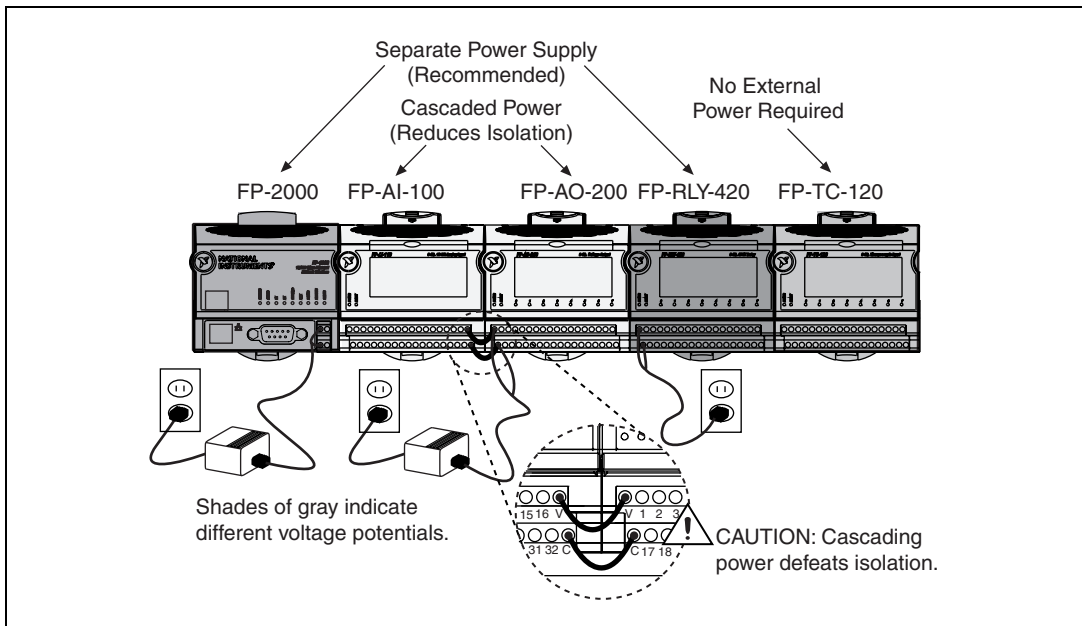

Figure 2-2. FieldPoint Bank with Power Connections
1. Connect the primary power supply to the center V and C pair. You can connect an optional backup power supply to the left V and C pair. The FP-20xx uses the power supply with the higher voltage level. The V terminal for backup power is isolated from the other V terminals. The right V and C pair provides a convenient means of connecting power to the V and C terminals of a terminal base. Figure 2-2 shows this optional connection, called *cascading power*. To verify that your power supply is sufficient for your modules and devices, refer to the *Calculating Power for a FieldPoint Bank* section for instructions on calculating power requirements.
Figure 2-2 shows an example of a FieldPoint system correctly wired to power sources.